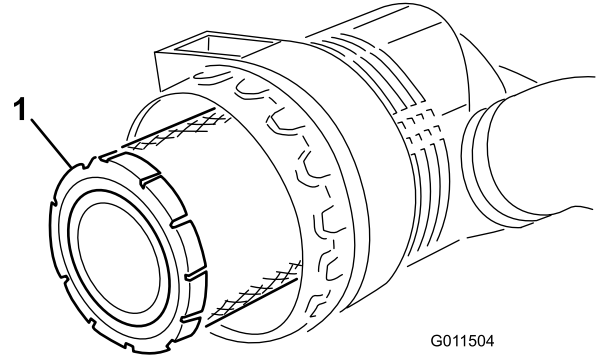

Figure 51
2. Before removing the filter (Figure 51), use low pressure air (40 psi, clean and dry) to help remove large accumulations of debris packed between outside of primary filter and the canister. Avoid using high pressure air which could force dirt through the filter into the intake area. This cleaning process prevents debris from migrating into the intake when the primary filter is removed.